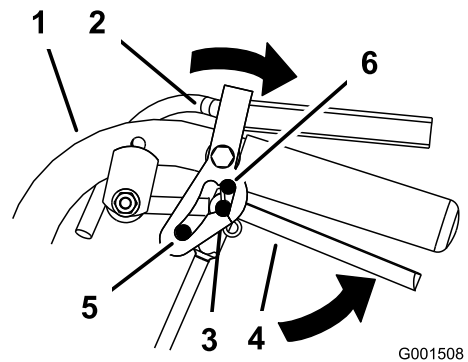

Figure 10
2. Place thumbs on the upper part of the locks and move them back (Figure 10).